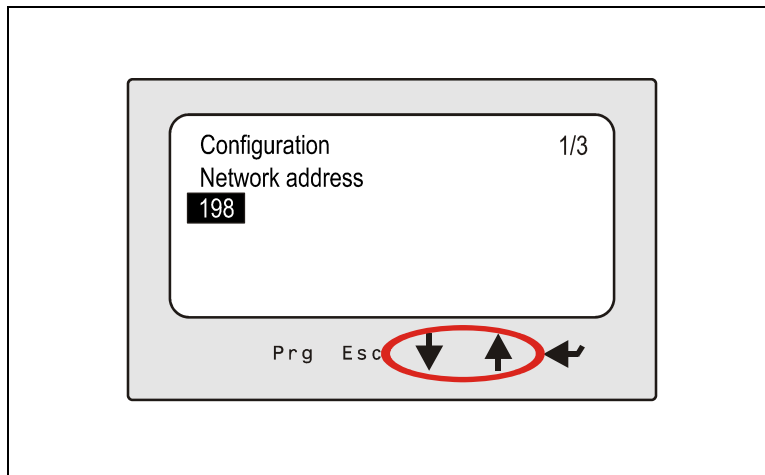

Figure 9 - Network Address Value
14. Press the **UP** or **DOWN** key to configure the value (*Figure 9*).